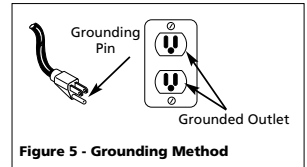

Figure 5 - Grounding Method
3. This product is for use on a nominal 120 volt circuit and has a grounding plug that looks like the plug illustrated in Figure 5. Make sure the product is connected to an outlet having the same configuration as the plug. This product must be grounded. In the event of an electrical short circuit, grounding reduces risk of electrical shock by providing an escape wire for electric current. This product is equipped with a cord having a grounding wire with an appropriate grounding plug. Plug must be plugged into an outlet that is properly installed and grounded in accordance with all local codes and ordinances.